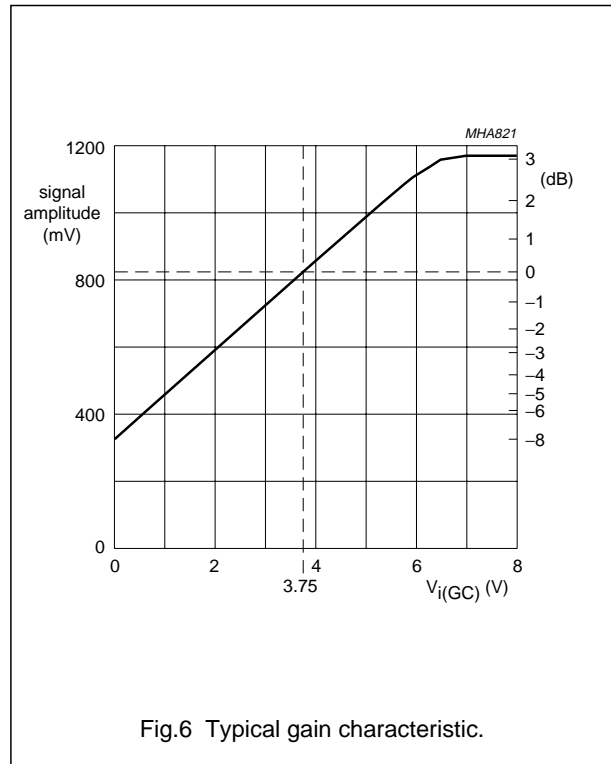

Fig.6 Typical gain characteristic.
6. Linear control range is 1 to 6 V for  $V_{i(GC)}$ , independent of supply voltage. Typical gain characteristic see Fig.6.